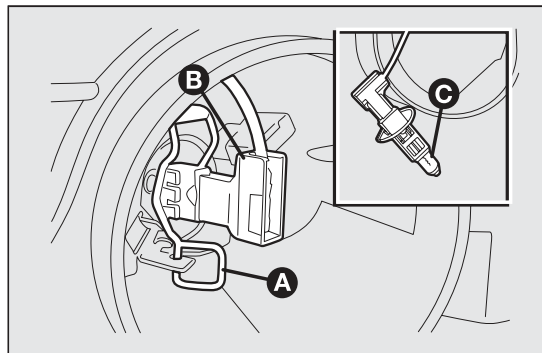

fig. 158
- ☐ release the bulb holding clip A fig. 158;